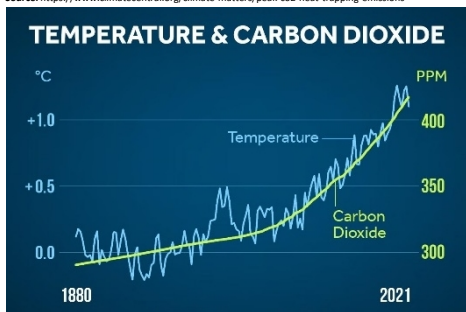

Figure 1: Carbon Emissions and Average Global Temperature
- An upward trend in carbon emissions, shown in Figure 1, causes global average temperature rise, which threatens quality of life and critical infrastructure.